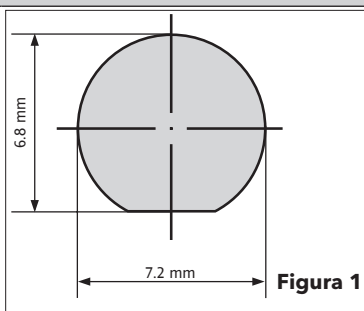

Figure 1
- Drill a hole in the panel as shown in Figure 1: